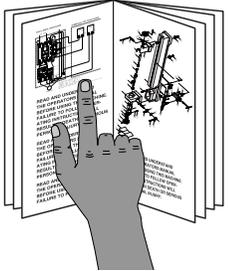

Figure 11. Feed direction switch.
6. Connect the power feeder to the power supply and use the feed direction switch (**Figure 11**) to test operation in both directions.